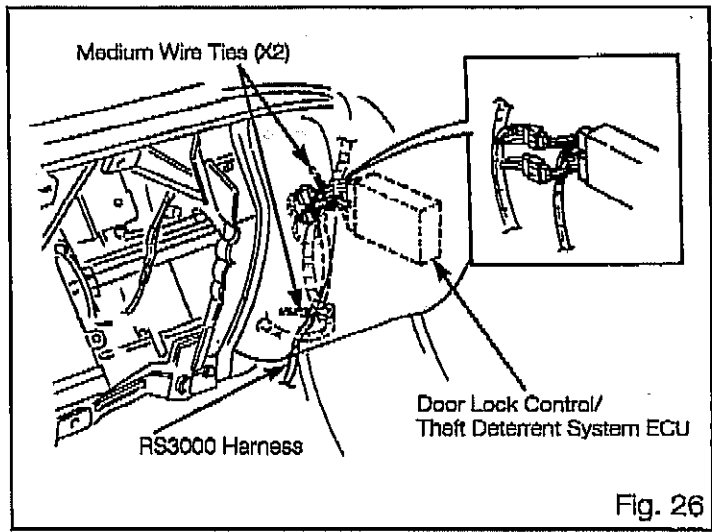

Fig. 26
- (3) Secure the RS3000 harness to the vehicle's wire harness with two medium wire tie as shown. Fig 26